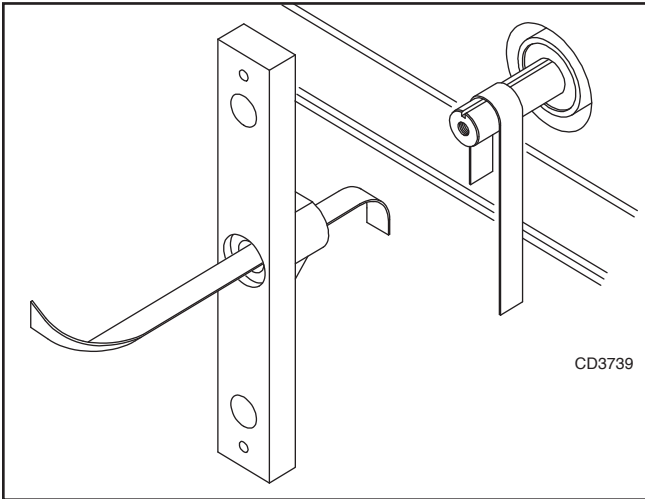

Figure 19.
1. Using emery cloth (220 or finer), remove surface rust, Loctite® and foreign material from hub, splined shaft, vertical gearbox, vertical shaft, and crossbar as shown in Figure 19.